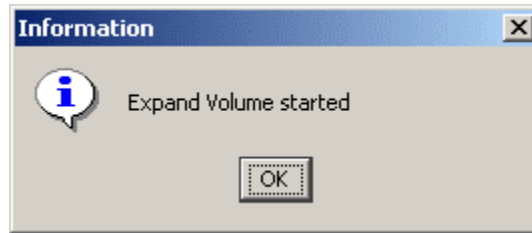

Figure 5-17 Expand Volume Message
4. Click **OK**. The message in Figure 5-17 appears.